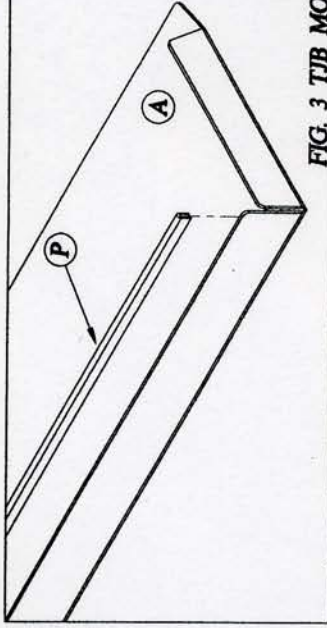

FIG. 3 TJB MODEL SHELF
2. Install trim-lok **P** onto shelf front lip by gently tapping with a rubber or wooden mallet until trim-lok is completely seated as shown in Fig. 3.